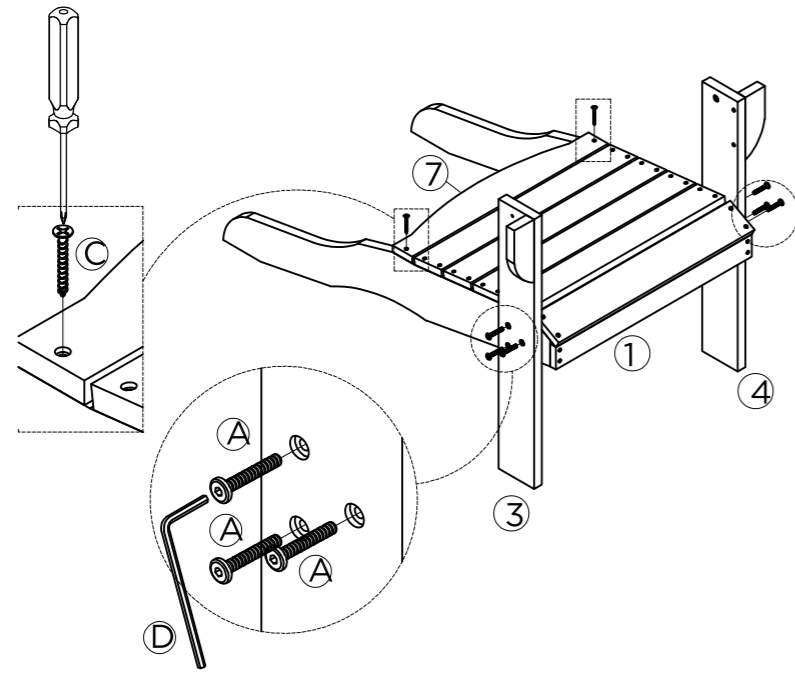

Fig. 1
1. Place the Seat back rail (7) to the back of the seat frame (1). Align the holes, then tighten screws (C) into pre-drilled holes using screwdriver (not included). See Fig. 1.
2. Connect the Right Leg (3) and Left Leg (4) to the seat frame (1), using hex key (D) to tighten bolts (A) into holes. See Fig. 1.